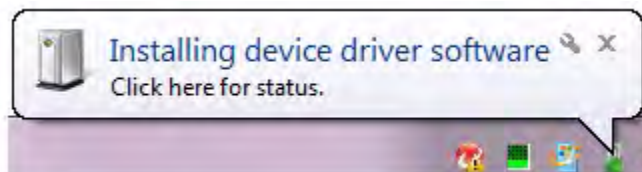

Figure 4. Install Device Driver Dialog, Windows 7
2. After the PC detects the new hardware, it will display the *Installing device driver software* dialog shown in Figure 4.